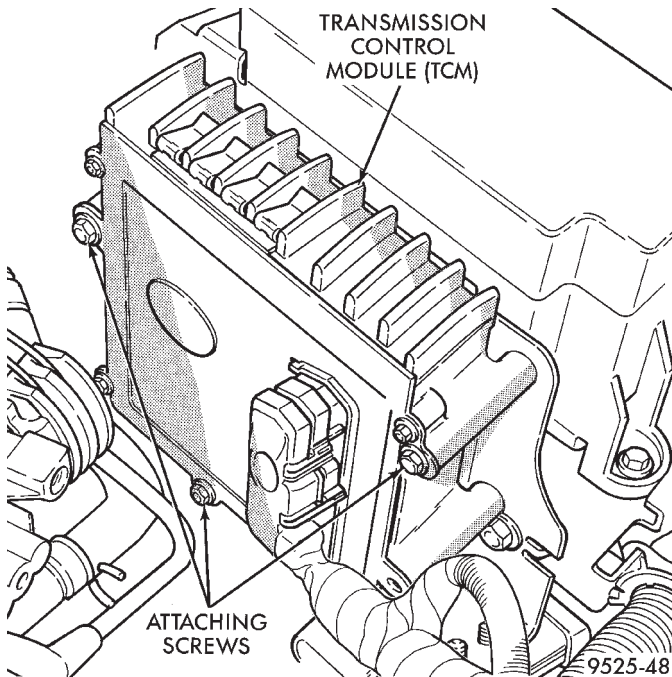
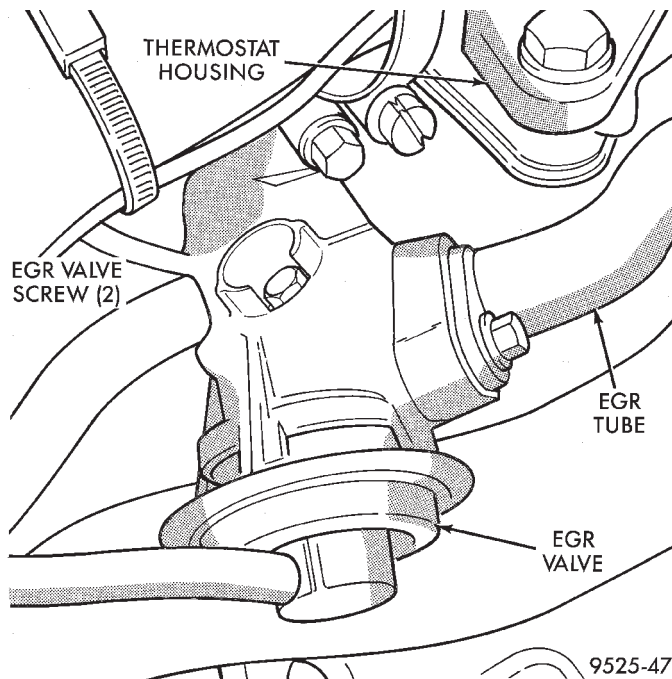

Fig. 8 TCM Removal
Fig. 9 EGR Removal
- (1) Disconnect vacuum supply from solenoid.
- (2) Disconnect electrical connector from solenoid.
- (3) Remove screws holding transducer to bracket.
- (4) Remove screws holding Transmission Control Module (TCM) to bracket (Fig. 8). Swing TCM up to allow access to EGR screws (Fig. 9).